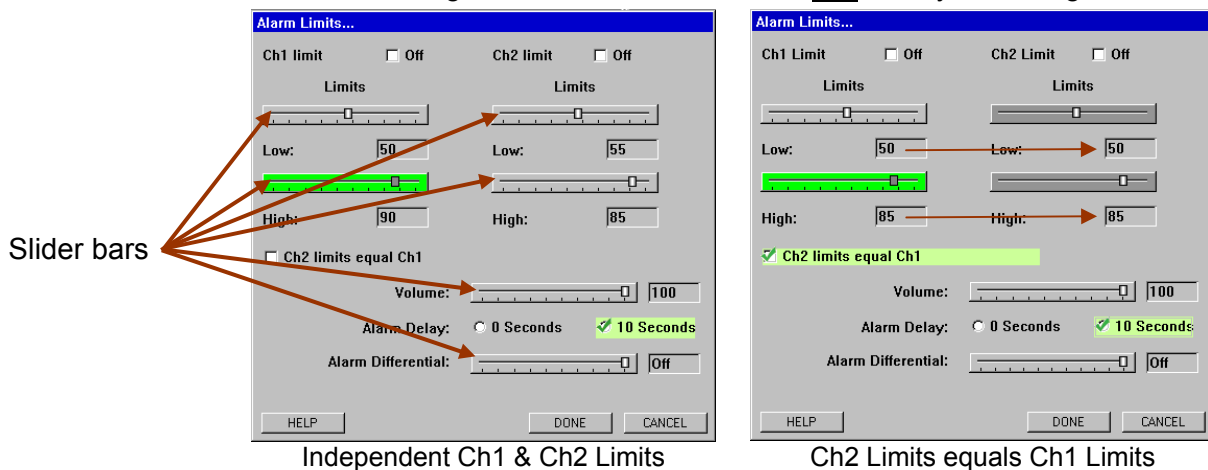

Figure 26: Alarm Limits Menu
- 4 Press the rotary knob a second time to open the Alarm Limits menu (see Figure 26 below).